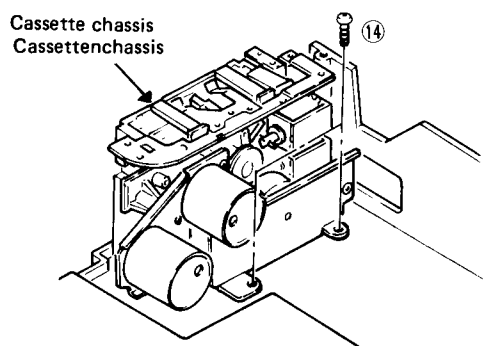

Fig. 5 Abb. 5
(5) Cassette chassis (Fig. 5)
(5) Kassettenchassis (Abb. 5)